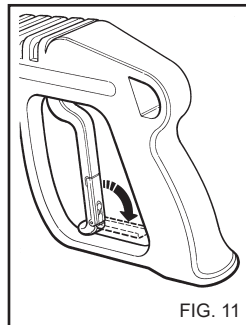

FIG. 11
- When the water cleaner is not used, close the safety device on the handle. (fig. 11)